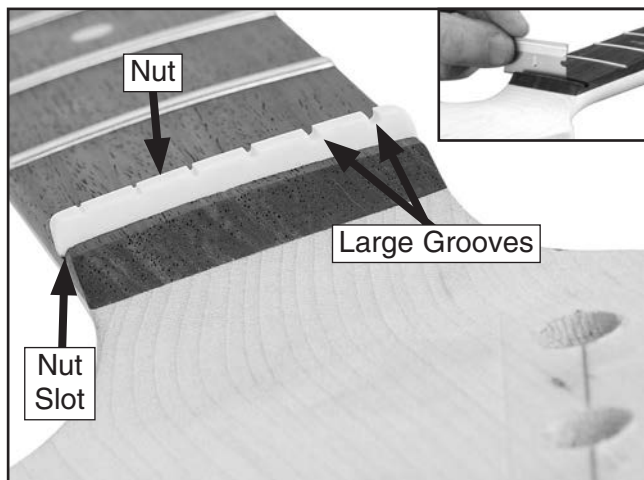

Figure 27. Nut installed. (Insert: craping nut slot)
- If the nut will not fit into the slot, sand one side on a piece of sandpaper until it fits snugly into the slot as shown in **Figure 27**. Make sure the large grooves on the nut are toward the top of the neck.